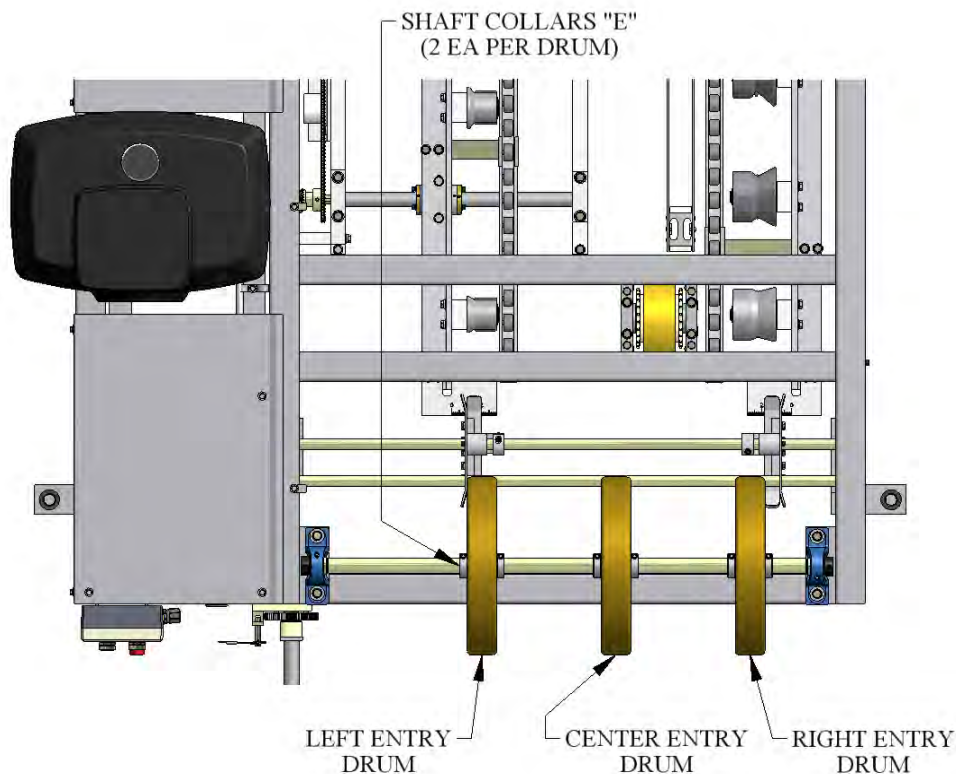

Figure 28: Entry Drum
1. Using a 3/16" allen wrench, loosen the four Shaft Collars, on either side of Left Entry Drum and Center Entry Drum. (Figure 28)